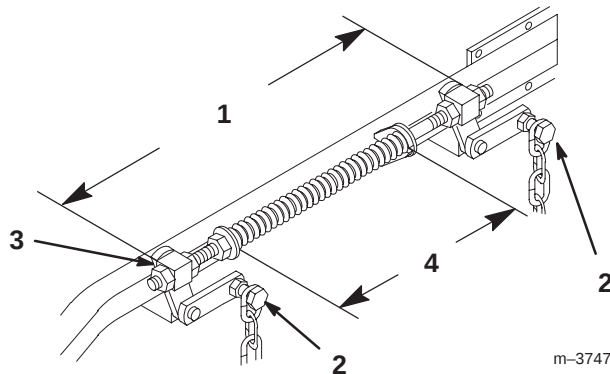

Figure 56
6. Loosen four (4) top chain bolts in slots. Check the length of the rod/swivel assemblies. Distance from outside of rear swivel to outside of front swivel should be 19-17/32 in. (496 mm) (Fig. 56). Make sure that all four swivels move freely in holes.
- Springs are compressed so the distance between the two large washers should be 10–1/4 in. (260 mm) (Fig. 56).
- Adjust by turning nut in front of each spring (Fig. 56). Clockwise will shorten spring; counter-clockwise will lengthen spring.